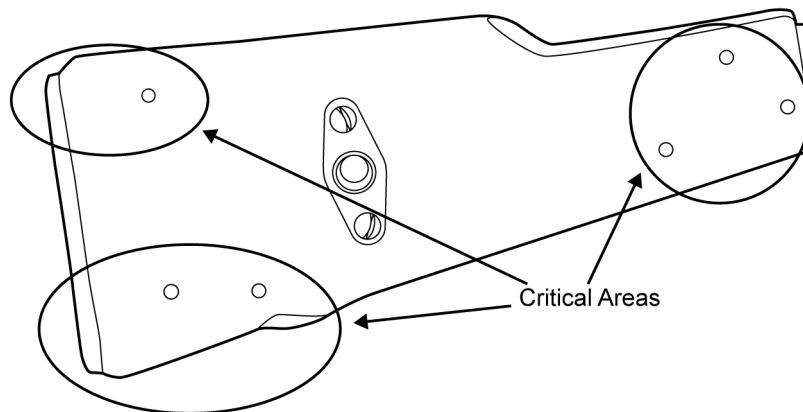

Figure 42. Critical Areas of the Buttstock.
- a. Check the fixed buttstock for cracks. Up to three cracks are acceptable. No cracks are acceptable in the critical areas (near pins or screws). Refer to Figure 42. Replace the buttstock if damaged.